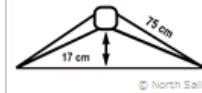

Fig.1
1. The length and angle of the spreaders are important to the shape of the main, because they help to control the bend of the mast and thereby the tension of the forestay. The length of the spreaders is measured from the side of the mast to where the shroud passes the spreader. It is measured along the middle of the spreader (Fig.1).